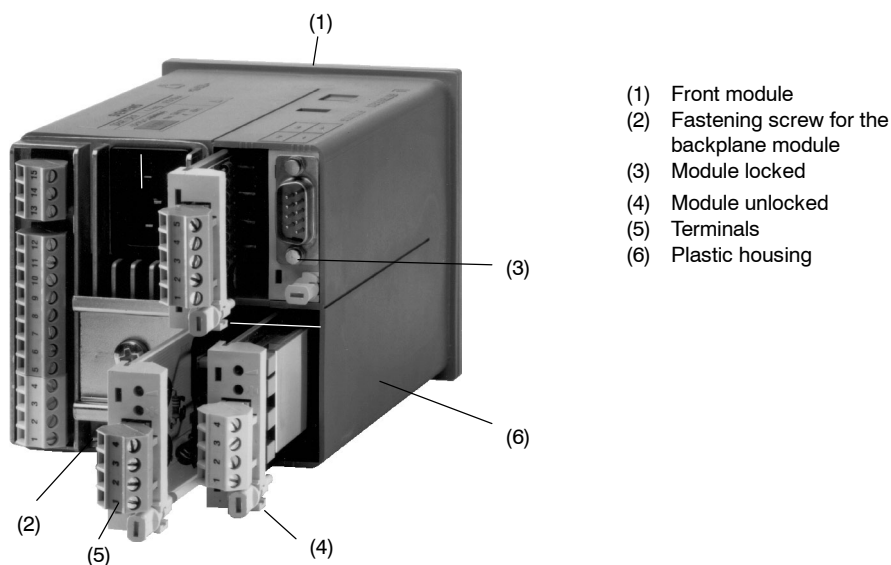

Figure 8-1 Controller rear view
- Loosen the fastening screw (captive) (see (1) fig. 8-1).
- Release the lock and pull out the options module (see (5) figure 8-1).